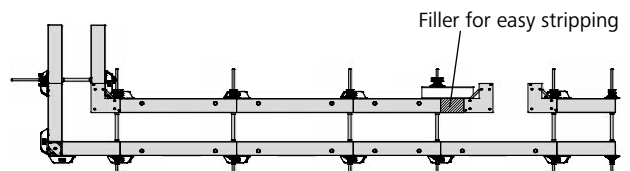

Fig. 5.3
- Walls of less than 6 m require a filler in the inside formwork for easy stripping (Fig. 5.3), as the formwork may otherwise become wedged and stick to the concrete when it is stripped.